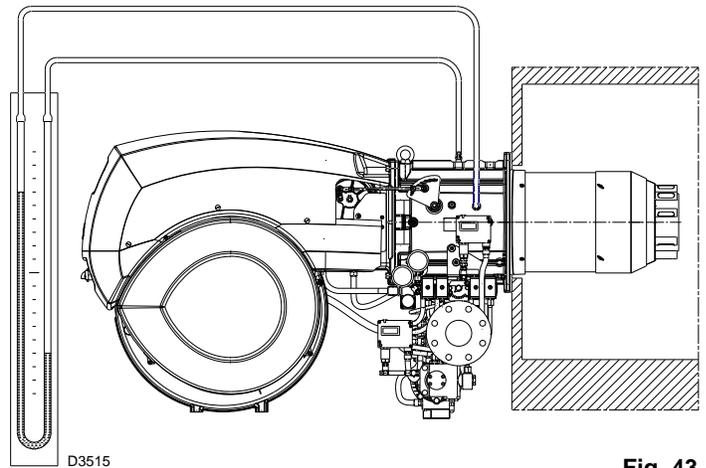

Fig. 43
- Fit a U-type manometer (Fig. 43) to the gas pressure test point on the sleeve. The manometer readings are used to calculate MAX. burner power using the Tab. J on page 34.